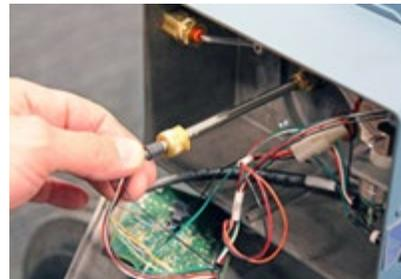

Figure 115: Remove Master Meter temperature probe
- b. Remove the Master Meter temperature probe from its well (Figure 115).